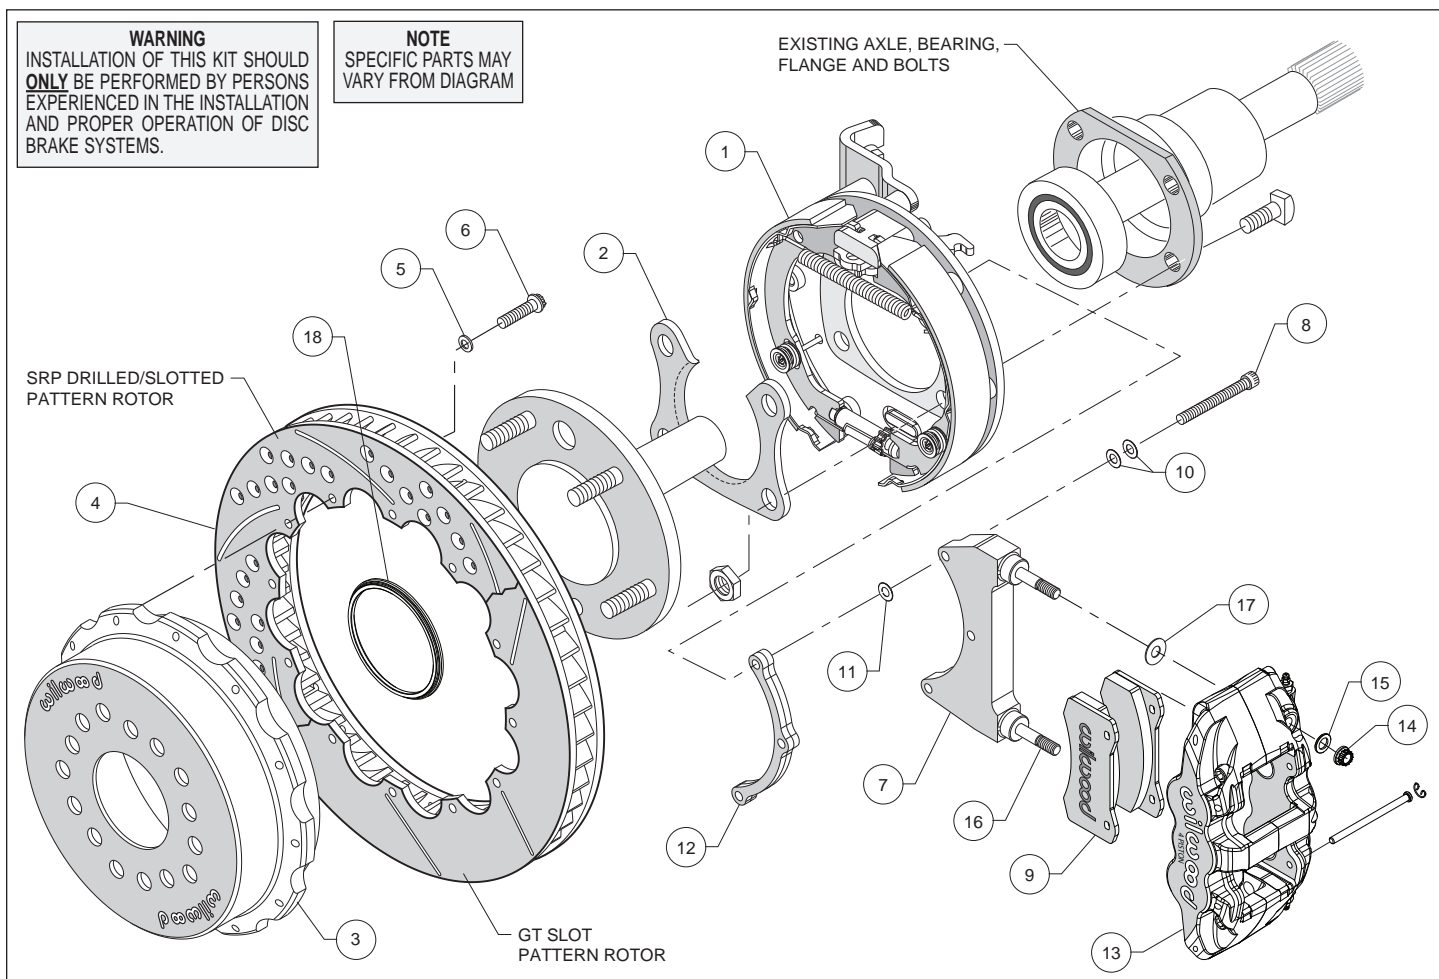

Figure 1. Typical Installation Configuration
- Orient the bracket assembly (1) as shown in Figure 1 and slide it onto the axle. Insert the axle and bracket into the axle housing. Ensure that the bracket assembly backing plate fits flush against the axle housing flange.
- Install the bearing retainer (2) with the opening pointing upward and the lip facing inward (toward the bearing), as shown in Figures 1 and 4. Secure retainer and bracket assembly to the axle housing flange using the Original Equipment Manufacturer (OEM) bolts and nuts, Figure 1. Apply red *Loctite*® 271 to the OEM bolt threads and torque to OEM specifications.
- Slide the rotor registration adapter (18) onto the axle register on the axle flange with the smaller O.D. facing toward the rotor/hat (3). Align the correct hole pattern in the hat with the stud pattern on the axle flange. **NOTE:** Some OEM and aftermarket axles come with stud sizes larger than 0.50" diameter. Verify stud size and have a qualified machine shop drill the hats to the correct size, if necessary. Slide the hat/rotor assembly (3 and 4) over the wheel studs covering the bracket kit assembly (1) and against the axle flange face. Check to be sure the hat seats squarely against the hub. Install three lug nuts (finger tighten) to keep the rotor/hat assembly in place while continuing with the installation.
- **NOTE:** Please reference the caution statement at the beginning of the assembly instructions. The caliper mounting bracket assembly (7) should be installed first with clean, dry threads on the mounting bolts (8). Install the bracket from the rear side of the bracket kit assembly (1) by sliding bolt (8) through two flat washers (10) bracket (7), shim washer (11) and finally through the spacer (12), see Figure 1. **NOTE:** End of bolt should not exceed inside face of insert. The bracket must tighten squarely against the back side of the bracket kit assembly (1). Inspect for interference from casting irregularities, machining ridges, burrs, etc. Use one thin shim (11) between the bracket (7) and spacer (12) during initial trial fitting.
- Lubricate caliper mounting studs and nuts with lightweight oil. Install one washer (17) over each pre-installed stud (16) on the radial mount bracket (7). Slide the caliper (13) in place over the studs and rotor, then install the washer (15) and lock nut (14) to hold the caliper in place. The caliper bleed screws should be pointing up. Snug the lock nuts (14) and check that the rotor (4) is centered in the caliper (13). Add or subtract .015" shims (11) as necessary between the caliper mounting bracket (7) and the spacer (12) to center the caliper (9).
- Remove the two pad retaining pins from the caliper (13) by carefully popping out the pin retaining clips and sliding out the pins. Insert the brake pads (9) into the caliper from the bottom, Figure 1. With the friction material facing the rotor, secure the brake pads in place with the pad retaining pins and clips. Reinstall the caliper onto the caliper mounting bracket and temporarily tighten the lock nuts. Check that the top of the brake pad is flush with the outside diameter of the rotor. If not, adjust by adding or subtracting shims (17) between the caliper and the bracket.
- Adjust the parking brake shoes outward (using a drum shoe adjustment tool available at your local auto parts store) while spinning the hat (3) until a slight drag is felt against the hat/drum. Remove the lug nuts that were holding the hat/rotor in place. Install the wheel and lug nuts. Check to see that the wheel rotates freely without interference.
- Once all clearances have been checked, remove the wheel, caliper, hat/rotor from the bracket kit assembly (1). Secure the caliper mounting bracket (7) to the bracket kit assembly (1) using red *Loctite*[®] 271. Torque bolts (8) to 180 in-lb. Reinstall the hat/rotor assembly and again use lug nuts to hold it in place. Reinstall the caliper, torque the caliper nuts (14) to 47 ft-lb.
- **NOTE:** Clevis and cable kits which attach to the parking brake assembly are not included in the Wilwood parking brake kit. Wilwood offers a generic style parking brake cable kit, P/N 330-9371 for this application which can be ordered separately from your local Wilwood dealer or by calling Wilwood customer service at (805) 388-1188.